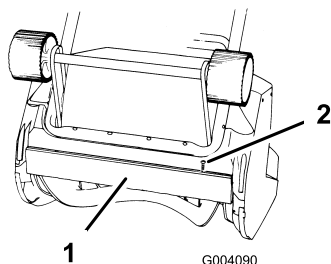

Figure 11
The scraper is located at the bottom of the rotor housing as shown in Figure 11.
1. Remove the 2 screws that secure the scraper to the snowthrower (Figure 11).